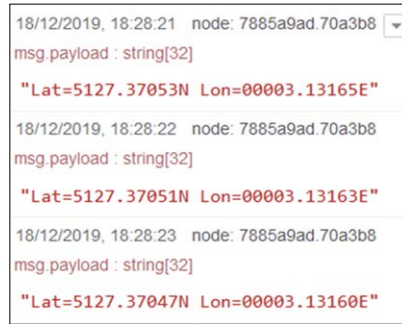

Figure 11.19 Displaying the latitude and longitude information
- Create a **debug** node to display the result in the Debug window. Click Deploy. You should see the latitude, longitude, and directions displayed as shown in Figure 11.19.